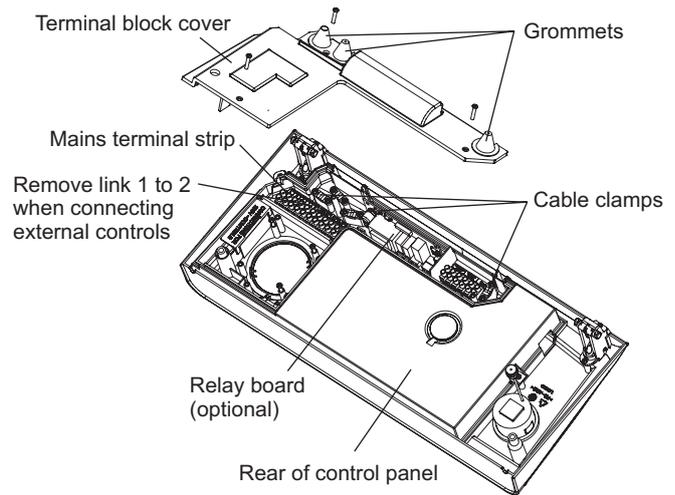

Fig. 23
4.10 CONNECT THE MAINS SUPPLY - Fig. 23
Remove the two screws securing the terminal block cover from the back of the control box (see Fig. 23). Pass the mains supply cable through the cable clamp and connect as follows:- Brown to L, Blue to N and Green/Yellow to \perp . Ensure correct polarity.